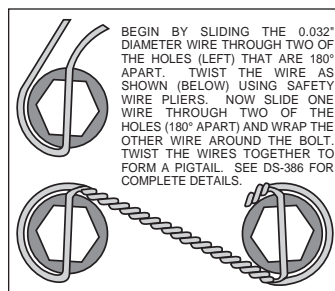

Figure 3. Safety Wire Diagram
- Pack the large inner bearing cone (7) with high temperature disc brake bearing grease (available from your local auto parts store) and install into the backside of the hub (6), Photo 3.
- Install the grease seal (8) by pressing into the backside of the hub (6), flush with the end of the hub, Photo 3.
- Orient the rotor (9) and the hat (10) as shown in Figure 1 and Photo 4. Attach rotor to hat using bolts (12) and washers (11). Using an alternating sequence, apply red *Loctite*[®] 271 to the threads and torque bolts to 155 **in-lb**. For an added measure of security, the bolts may be safety wired using standard 0.032 inch diameter stainless steel safety wire as shown in Figure 3. Refer to Wilwood's data sheet DS-386 (available at www.wilwood.com/Pdf/DataSheets/ds386.pdf) for complete safety wire installation instructions.